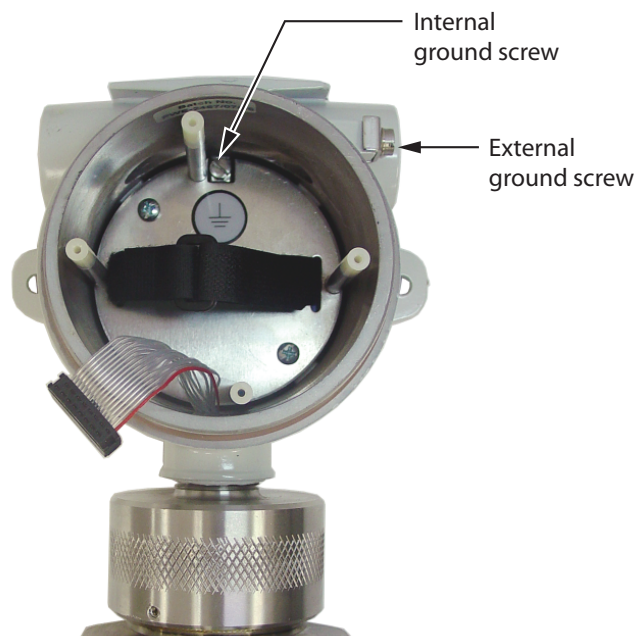

Figure C.4—Ground screw locations
6. Connect the FOUNDATION fieldbus power cable to TB4 on the fieldbus interface board. See Figure C.4, page C-7.
- An internal ground screw is mounted inside the enclosure near the top of the backplate. FOUNDATION fieldbus cable can be routed through a conduit opening in the top of the Scanner 2000 enclosure and connected to this ground screw (Figure C.4, page C-7).
If national or local electrical codes require the enclosure to be grounded, a protective earth grounding conductor may be required. To install a protective earth ground, connect an earth ground conductor to the stainless ground lug near the top of the Scanner 2000 enclosure (also shown in Figure C.4) or to the internal ground screw, and connect the other end to a ground rod or other suitable system earth ground. The ground lugs will accept wire sizes from 14 AWG solid conductor to 4 AWG stranded conductor.